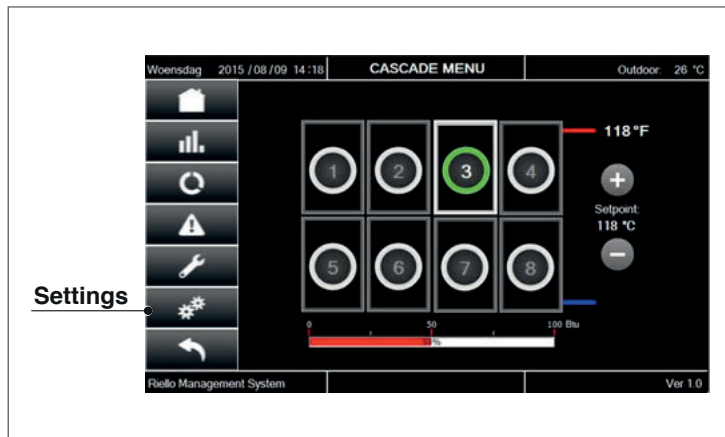

Fig. 35 Cascade Screen
- The boiler CH setpoint can be controlled by an analog input signal provided by a remote means such as a Building Management System or a system controller. The analog input 0-10 VDC, is used to adjust the boiler setpoint between the CH_Setpoint_Min and the CH_Setpoint_Max settings (Figure 35). To enable this operation mode, the parameter CH mode must be set to 4 (see **Array** Control System Manual for accessing the parameter list).